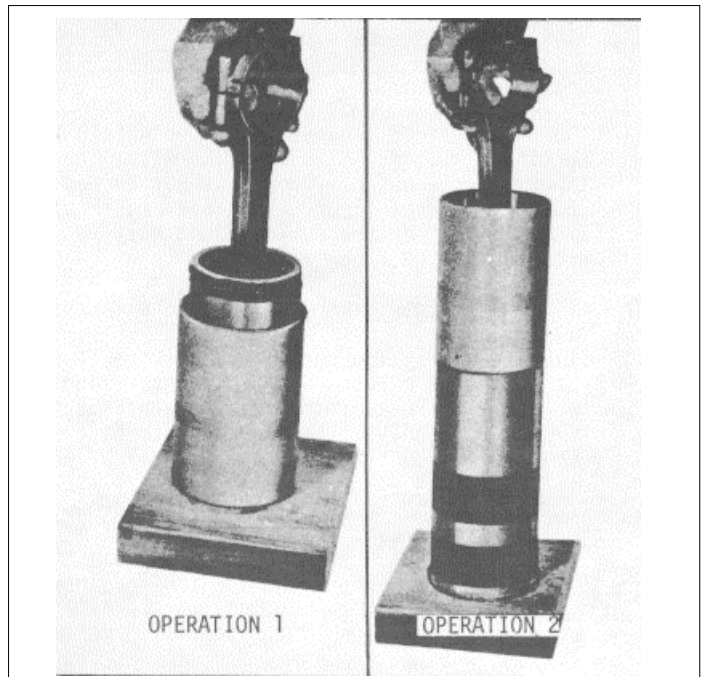

Fig. 8 Installing Piston and Connecting Rod Assembly in Ring Compressor and Cylinder Liner
- (2) Place the piston ring compressor on a wood block, with the tapered end of the ring compressor facing up.
- (3) Position (stagger) the piston ring gaps properly on the piston. Make sure the ends of the oil control ring expanders are not overlapped.
- (4) Start the top of the piston straight into the ring compressor. Then push the piston down until it contacts the wood block (Operation 1 of Fig. 8).
- (5) Note the position of the matchmark and place the liner, with the flange end down, on the wood block.
- (6) Place the ring compressor and the piston and connecting rod assembly on the liner so the numbers on the rod and cap are aligned with the matchmark on the liner (Operation 2 of Fig. 8).